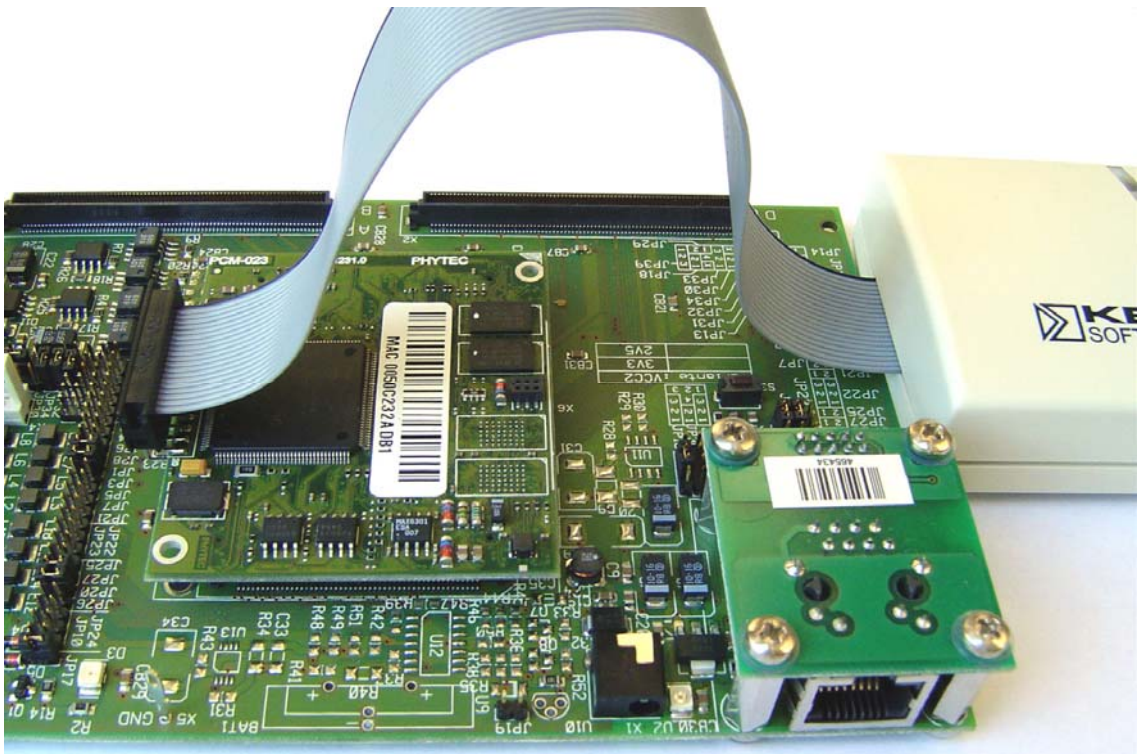

Figure 3: ULINK Connected to the phyCORE® Module
- Mount the phyCORE® module, pins-down, onto the Development Board's receptacle footprint (X6) as shown in *Figure 3* below. Ensure that pin 1 of the module, designated by the hash stencil mark, matches pin 1 of the receptacle on the Development Board.